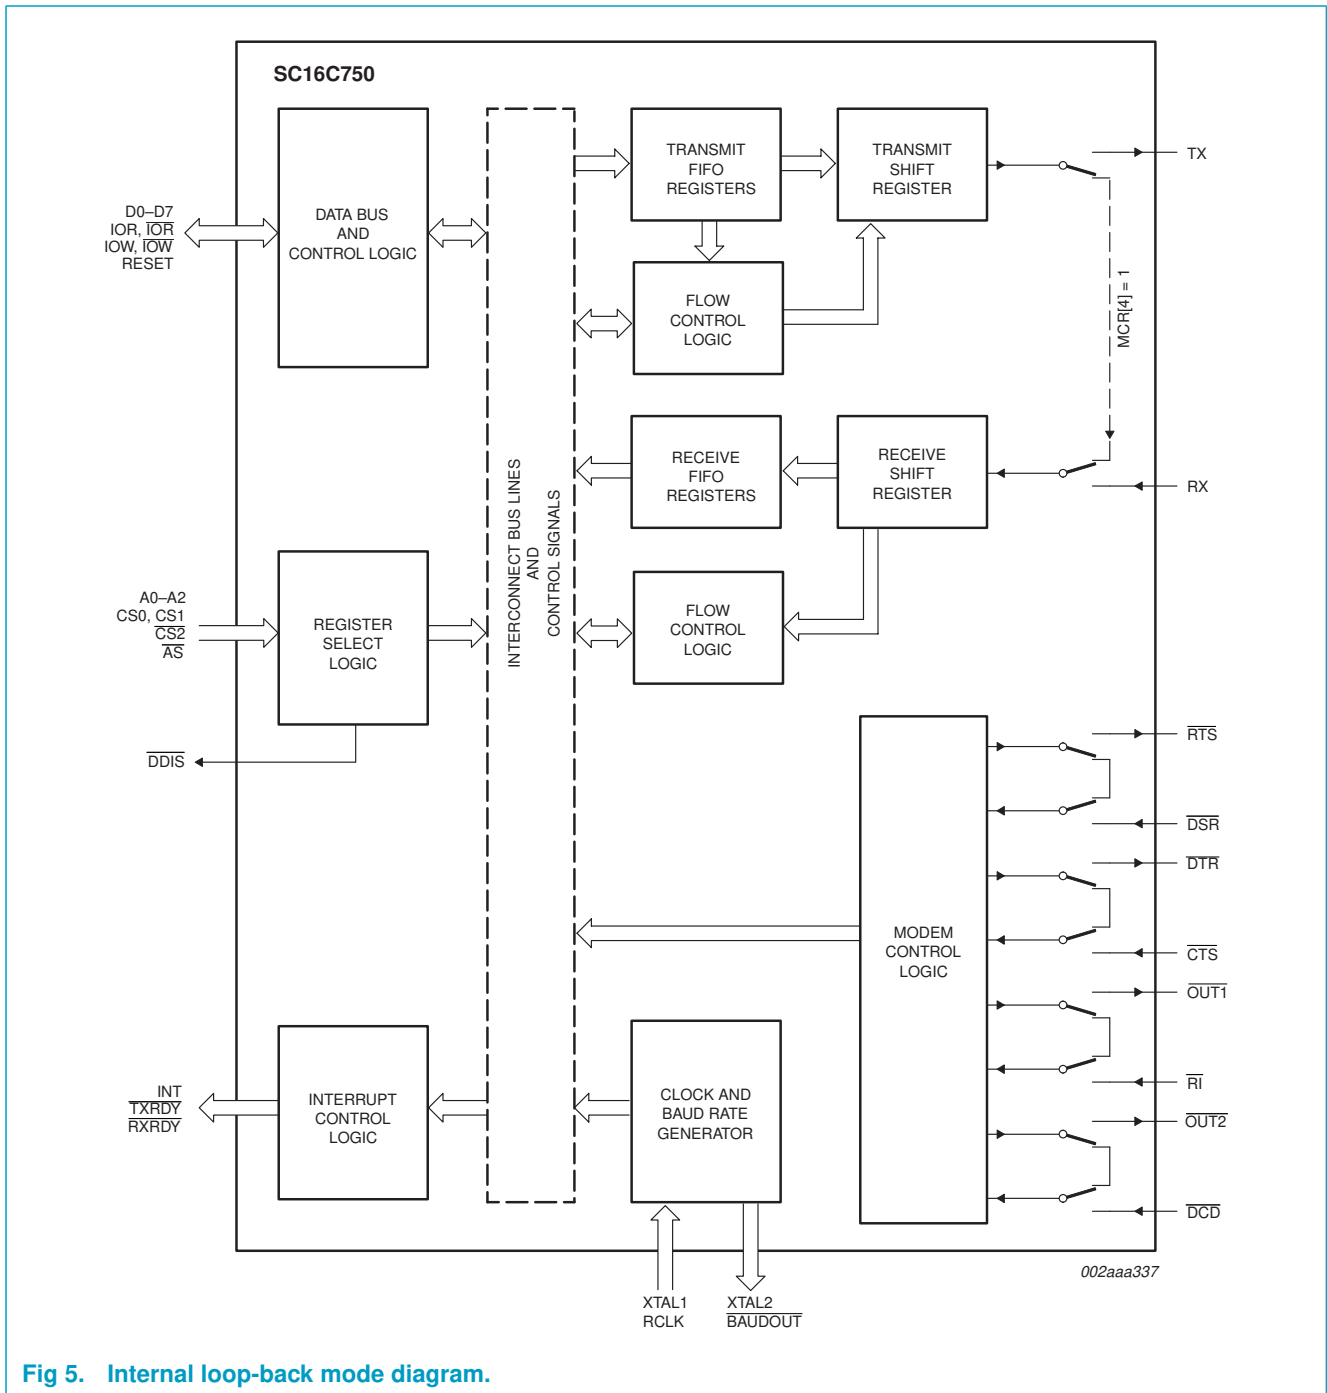

Fig 5. Internal loop-back mode diagram.
The internal loop-back capability allows on-board diagnostics. In the loop-back mode, the normal modem interface pins are disconnected and reconfigured for loop-back internally. MCR[0-3] register bits are used for controlling loop-back diagnostic testing. In the loop-back mode, OUT1 and OUT2 in the MCR register (bits 2-3) control the modem $\overline{\text{RI}}$ and $\overline{\text{DCD}}$ inputs, respectively. MCR signals $\overline{\text{DTR}}$ and $\overline{\text{RTS}}$ (bits 0-1) are used to control the modem CTS and DSR inputs, respectively. The transmitter output (TX) and the receiver input (RX) are disconnected from their associated interface pins, and instead are connected together internally (see Figure 5). The $\overline{\text{CTS}}$, DSR, DCD, and $\overline{\text{RI}}$ are disconnected from their normal modem control input pins, and instead are connected internally to $\overline{\text{DTR}}$, $\overline{\text{RTS}}$, OUT1 and OUT2. Loop-back test data is entered into the transmit holding register via the user data bus interface, D0-D7. The transmit UART serializes the data and passes the serial data to the receive UART via the internal loop-back connection. The receive UART converts the serial data back into parallel data that is then made available at the user data interface D0-D7. The user optionally compares the received data to the initial transmitted data for verifying error-free operation of the UART TX/RX circuits.